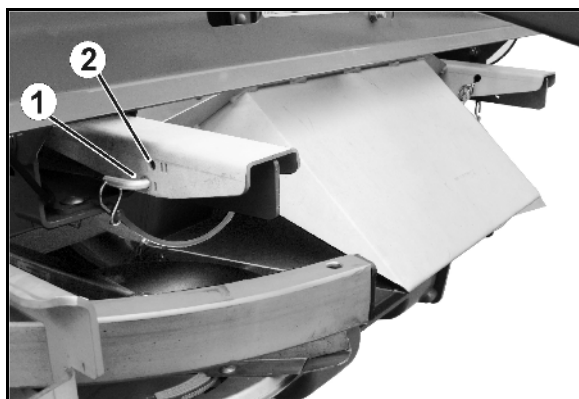

Fig. 43
2. Ditch spreading in accordance with fertiliser ordinance (Fig. 43):